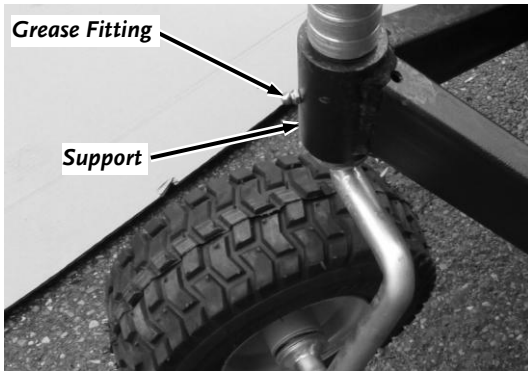

Figure 25
1. Apply a quality general-purpose lithium grease with a hand-pumped grease gun to each of the Support Grease Fitting (**Figure 25**).